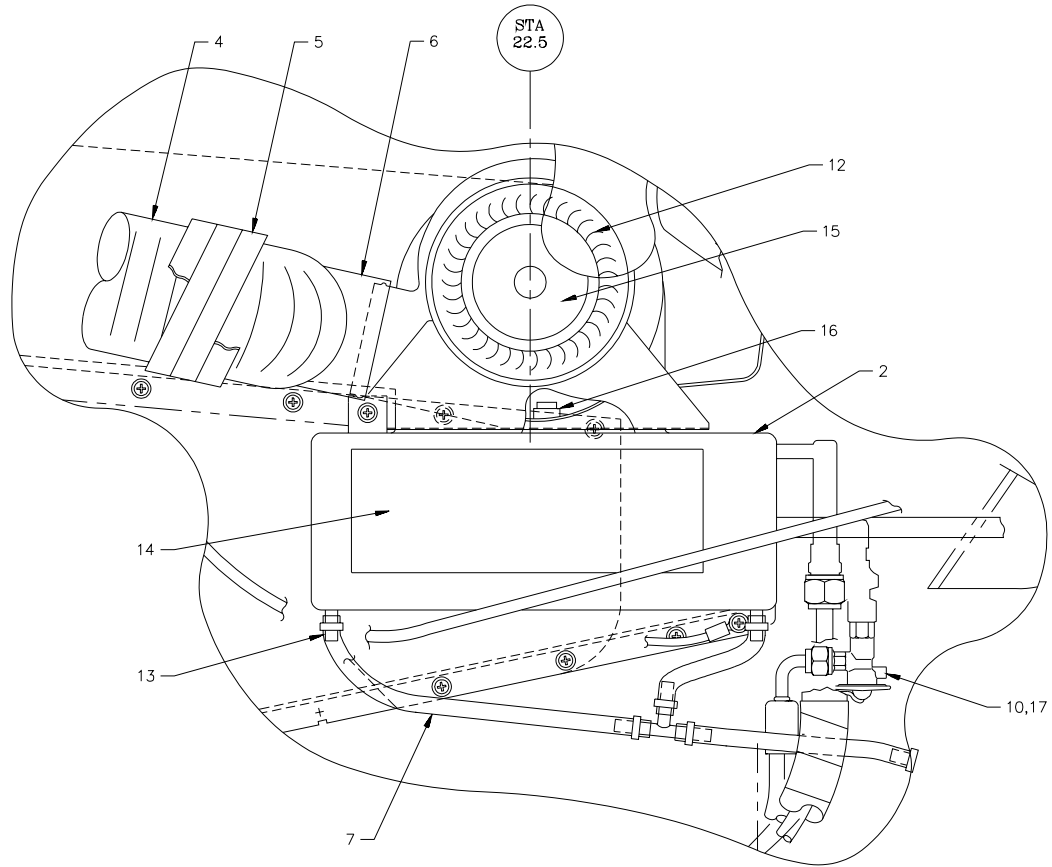

Figure 1
3. EVAPORATOR MAINTENANCE PROCEDURES (REF. IPL Fig. 1)